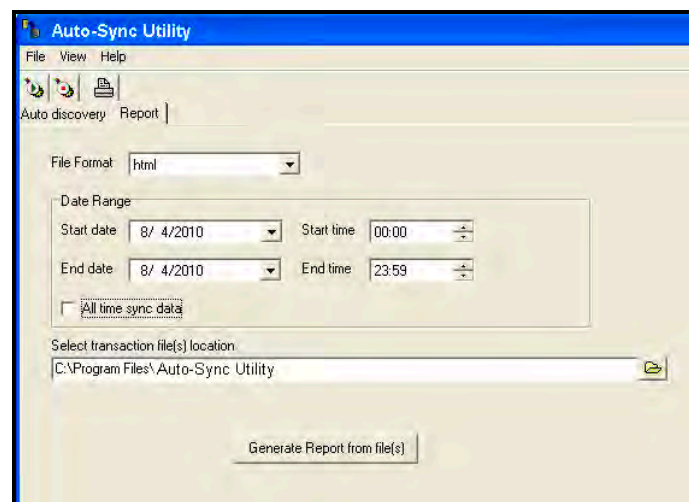

Figure 5-8. Auto-Sync Utility Report Tab.
5. Click on the Browse button to use the Windows Select Directory dialog (see *Figure 5-8*) to navigate to the folder where the "*MAC address\_ATVSTrans.txt*" backup files are to use for the report.